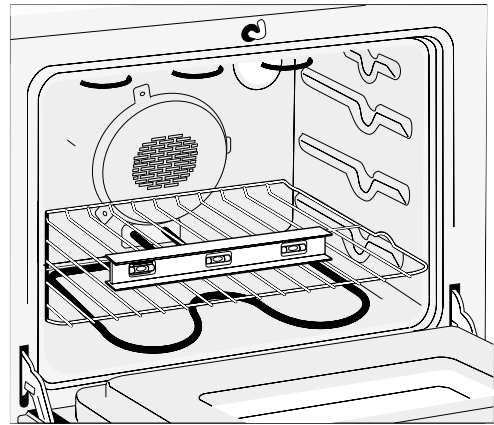

Figure 9
- Level the range.** The floor where the range is to be installed must be level (see Figure 9).